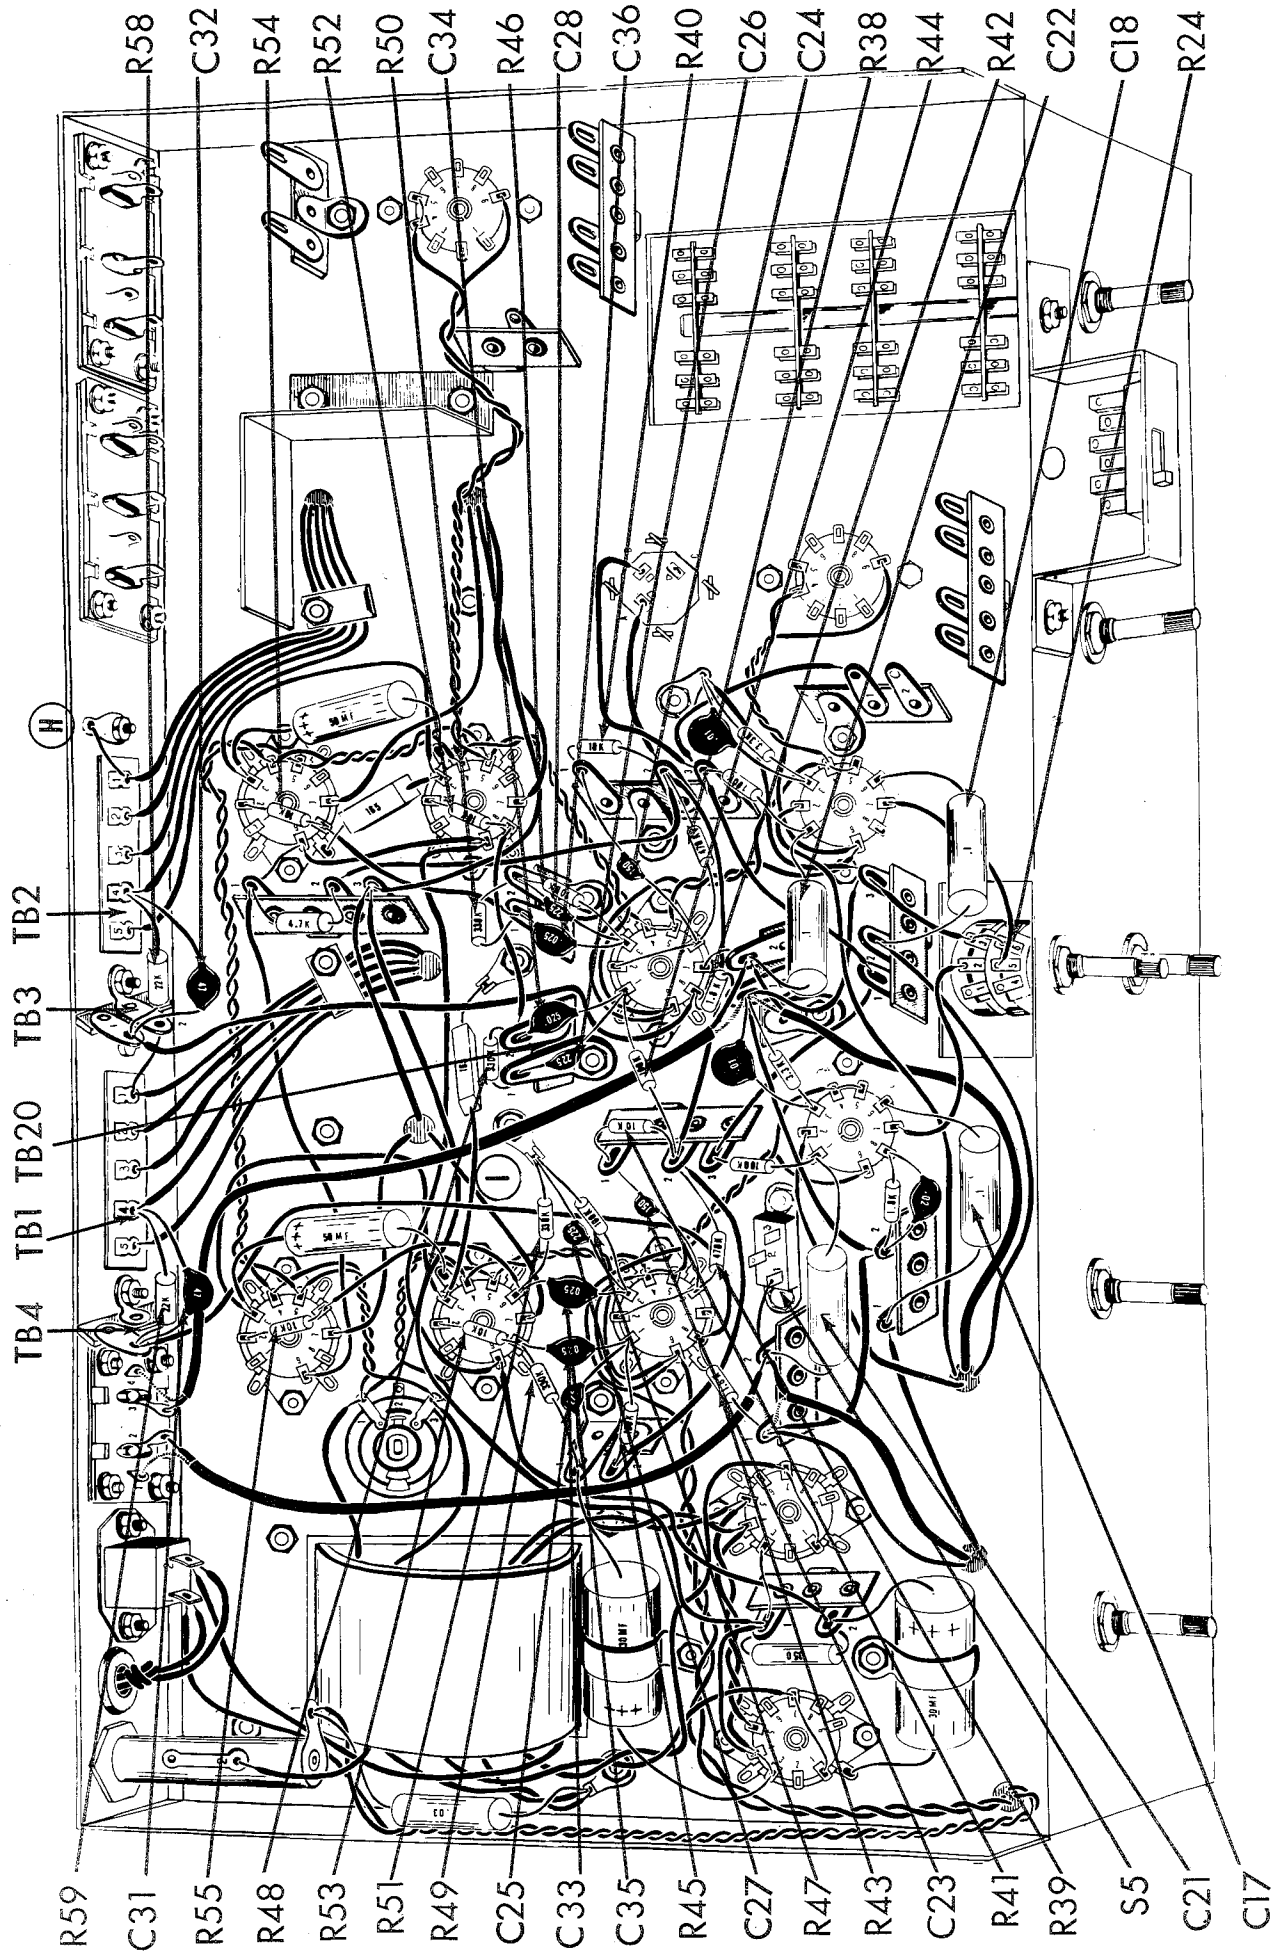

Fig. 9
1. (✓) Fig. 9. Connect a 2 1/2" piece of green wire from R24-5(S1) to XV4-7(S1).
2. (✓) Fig. 9. Connect a 9" piece of black wire from XV5-8(C) to TB4(C).
3. () Fig. 9. Connect a 9" piece of black wire from XV6-8(C) to TB3-1(C).
4. (✓) Fig. 9. Cut all leads on two 47mmf, 10% disc capacitors, C31 and C32, to 3/4". Connect C32 from TB2-4(C) to TB3-1(C) and the other capacitor, C31, from TB1-4(C) to TB4(C). Each lead is to be covered with a 1/2" piece of spaghetti.
5. (✓) Fig. 9. Connect a 1" piece of bare wire from TB1-1(S2) to TB3-2(S1).
6. () Fig. 9. Connect a 1" piece of bare wire from TB2-1(S2) to ground lug "H" (S1).
7. (✓) Fig. 9. Cut all leads on the two 22KΩ (red, red, orange, gold) 5% resistors, R58 and R59, to 3/4". Connect R58 from TB2-4(S3) to TB3-1(S3) and R59 from TB1-4(S3) to TB4(S3). Each lead is to be covered with a 1/2" piece of spaghetti.
8. (✓) Fig. 9. Cut all leads on the six 10KΩ (brown, black, orange, silver) resistors, R40, R41, R52, R53, R54, and R55, to 1/2". Connect R55 from XV8-6(S2) to XV8-2(S1). Connect R53 resistor from XV7-8(C) to XV7-2(S1). Connect R54 from XV10-8(S2) to XV10-2(S1). Connect R52 from XV9-8(C) to XV9-2(S1). Connect R41 from TB9-1(C) to TB9-2(C). Connect R40 from TB18-1(C) to TB18-2(C).
9. (✓) Fig. 9. Connect a 3" piece of grey wire from TB20-2(C) to XV9-8(S2).
10. (✓) Fig. 9. Cut all leads on the two 330KΩ (orange, orange, yellow, silver) resistors, R48 and R50 to 1/2". Connect R50 from TB19-2(C) to TB19-1(C). Connect R48 from TB20-1(C) to TB20-2(C).
11. (✓) Fig. 9. Cut all leads on the two 330KΩ (orange, orange, yellow, silver) resistors, R49 and R51 to 3/4". Connect R49 from TB10-1(C) to XV7-8(C). Connect R51 from XV7-6(C) to ground lug "I" (C).
12. (✓) Fig. 9. Cut all leads on the four .025mfd (25K or 25,000mmf) disc capacitors, C33, C34, C35, and C36, to 3/4". Connect C33 from XV5-1(C) to XV7-8(S3). Connect C35 from XV5-3(C) to XV7-6(S3). Connect C34 from XV6-1(C) to TB20-2(S3). Connect C36 from XV6-3(C) to TB19-1(S3).
13. (✓) Fig. 9. Cut all leads on the two 100KΩ (brown, black, yellow, gold) 5% resistors, R45 and R46, to 1/2". Connect R45 from XV5-1(C) to TB10-2(S2). Connect R46 from XV6-3(C) to TB19-2(C).
14. (✓) Fig. 9. Cut all leads on the two 100KΩ (brown, black, yellow, gold) 5% resistors, R44 and R47, to 3/4". Connect R47 from XV5-3(C) to ground lug "I" (C). Connect R44 from XV6-1(C) to TB9-2(C).
15. (✓) Fig. 9. Cut all leads on the two 225mmf disc capacitors, C25 and C28 to 3/4". Connect C25 from XV5-1(S3) to TB10-1(S3). Connect C28 from XV6-3(S3) to TB19-2(S3).
16. (✓) Fig. 9. Cut all leads on the two 225mmf disc capacitors, C26 and C27, to 1". Connect C27 from XV5-3(S3) to ground lug "I" (S3). Connect C26 from XV6-1(S3) to TB20-1(S2).
17. (✓) Fig. 9. Cut all leads on two 1.8KΩ (brown, grey, red, gold) 5% resistors, R42 and R43, to 3/4". Connect R43 from XV5-8(S2) to TB7-1(S5). Connect R42 from XV6-8(S2) to TB21-1(C).
18. (✓) Fig. 9. Cut all leads on two 470KΩ (yellow, violet, yellow, silver) resistors, R38 and R39, to 3/4". Connect R39 from XV5-6(C) to TB9-2(S5). Connect R38 from XV6-6(C) to TB18-2(S5).
19. (✓) Fig. 9. Cut all leads on two 150mmf disc capacitors, C23 and C24, to 1". Connect C23 from XV5-6(C) to TB9-1(S2). Connect C24 from XV6-6(C) to TB18-1(S2).
20. () Fig. 9. Connect a 1 1/4" piece of bare wire from TB7-2(C) to S5-1(S1).
21. (✓) Fig. 9. Connect a 3/4" piece of bare wire from TB21-2(C) to XV6-7(S1).
22. (✓) Fig. 9. Connect a 1" piece of bare wire from XV5-2(S1) to XV5-6(S3).
23. (✓) Fig. 9. Cut a 1" piece of bare wire from XV6-2(S1) to XV6-6(S3).
24. (✓) Fig. 9. Cut all leads on four .1mfd (brown, black, yellow, yellow) molded capacitors, C17, C18, C21 and C22, to 3/4". Cover each lead with a 1/2" piece of spaghetti. Connect C17 from XV3-6(C) to TB8-1(S2). Connect C18 from XV4-6(C) to TB11-2(S2). Connect C21 from XV3-1(C) to TB7-2(S4). Connect C22 from XV4-1(C) to TB21-2(C). Dress the leads as shown and push all capacitors flat against the chassis.